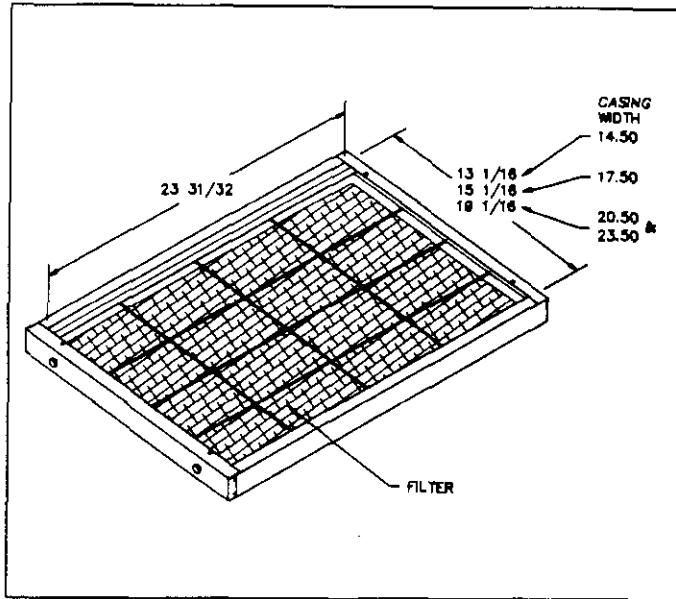

FIGURE 26
1. In upflow position, return air duct must be a minimum depth of 23-31/32". See Figure 26.